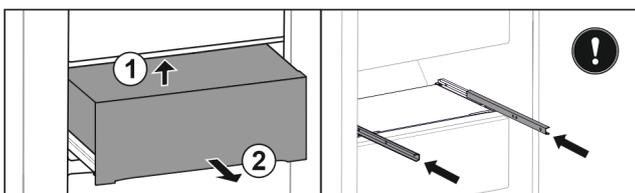

Fig. 46
- ▶ Lift drawer from below at the back. Fig. 46 (1)
- ▶ Remove drawer to the front. Fig. 46 (2)